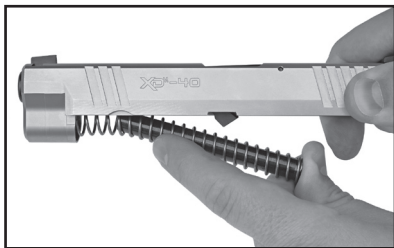

Figure 25-1
8. Remove the recoil system from the slide (See Figure 25-1.)